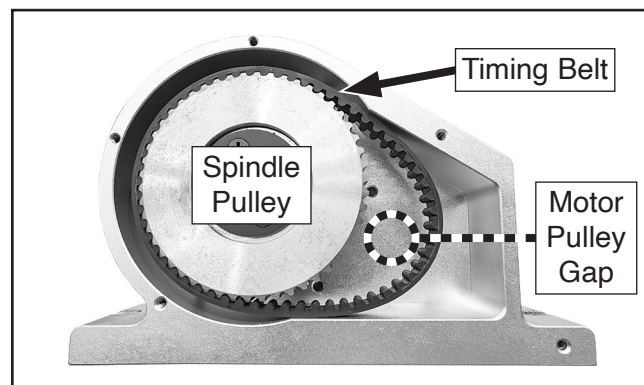

Figure 26. Example of proper belt meshing.
6. Install new timing belt and mesh belt teeth with teeth on left side of spindle pulley (see **Figure 26**).